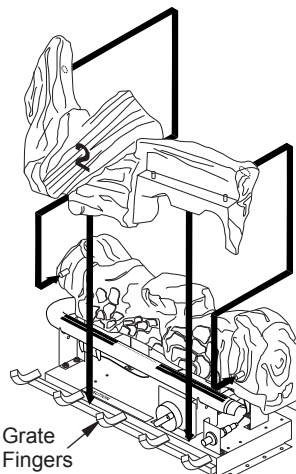

Figure 25 - Front Log Placement (Variable Manually-Controlled Models)
2. Place front log on grate fingers making sure "V" notches in log fit over grate fingers (see Figure 25).